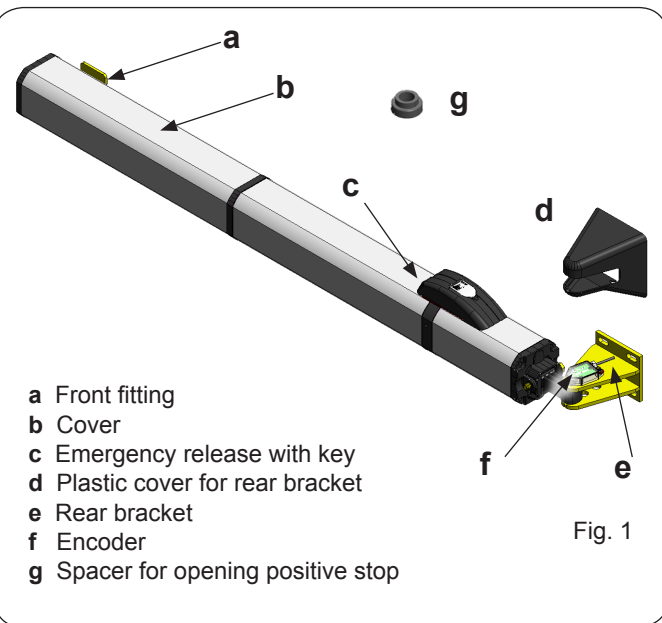

Fig. 1
- ❶ S450H 2 x AWG 14 (max 65') AWG 12 (max 115') AWG 10 (max 165') encoder 2 x AWG 20
- ❷ RX Photocells (receiver) 4 x AWG 20
- ❷ TX Photocells (transmitter) 2 x AWG 20
- ❸ Electronic control unit AC power 3 x AWG 14
- ❹ Key-operated push-button 2 x AWG 20
- ❺ Flashing lamp 24 V dc 2 x AWG 16
- ❻ Opening positive stops*
- ❼ Electric lock and closing mechanical stop 2 x AWG 14
* Not necessary when using built in positive stops (Fig.1 Ref. g).